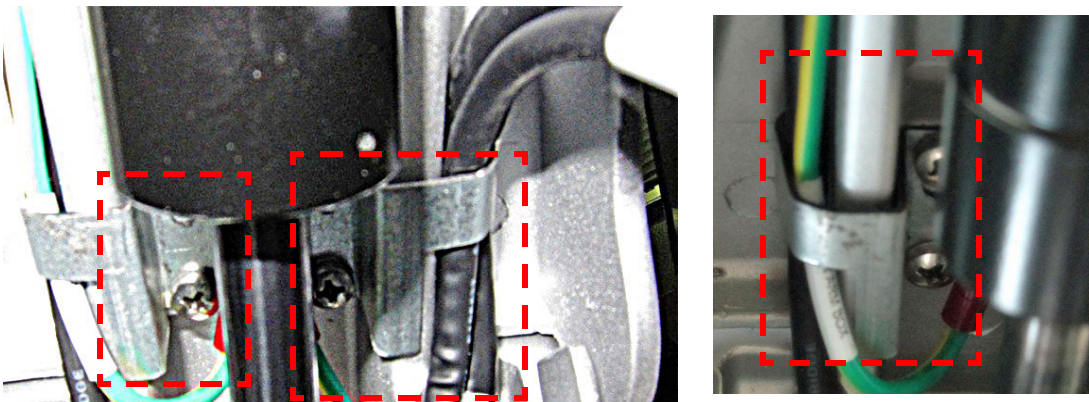

Figure 8-113 Two Cable Brackets On Either Side of the Gas Spring
- 8.) Remove two cable bracket holders - two securing screws in each bracket - one bracket on either side of the gas spring - see Figure 8-113 below.
- 2.) Return the two cable bracket holders - two securing screws in each bracket - one bracket on either side of the gas spring - see Figure 8-113 on page 8-88.